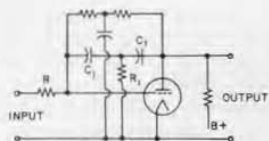
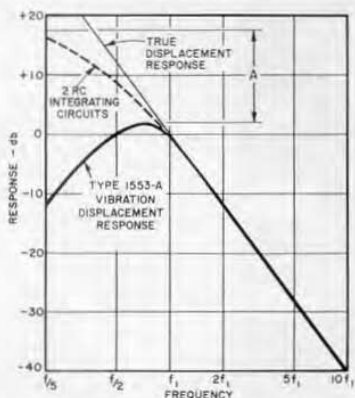

Figure 4. Schematic of improved integrating circuit.
Figure 5. Low-frequency displacement response.
circuit (Figure 4) is a modification of the familiar Miller-type integrator.⁸ The grid-plate capacitor of the Miller circuit is replaced here by a form of parallel-T tuned circuit. Advantages of the new circuit are illustrated in Figure 5 which shows the low-frequency portion of the displacement response of the TYPE 1553-A and the computed response for two RC or Miller-type integrators. At f_1 , the minimum desired response frequency, both responses are within 5% of the true displacement response. The difference in maximum responses (A) represents the saving in gain requirements for equivalent sensitivity on displacement afforded by the new circuit. This reduced gain requirement also means one can obtain higher sensitivity with no increase in noise level. A further improvement in noise level accrues from the new circuit because its response falls off just below its normal operating range of f_1 to nf_1 .